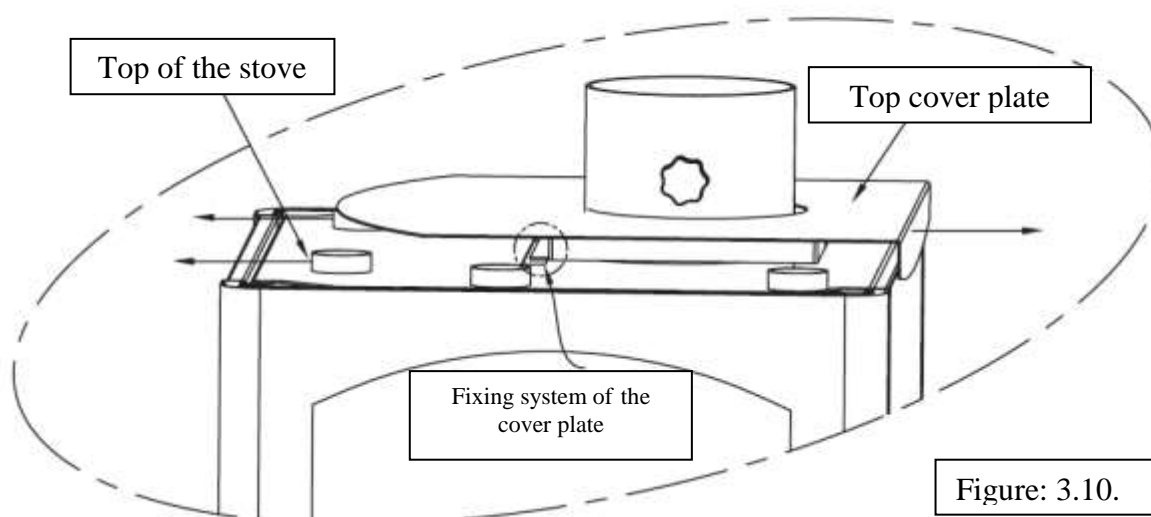

Figure: 3.10.
11. Push the top cover in the front direction as indicated in Figure 3.10 with the effect that the top can be raised up sufficiently to position the ceramics.